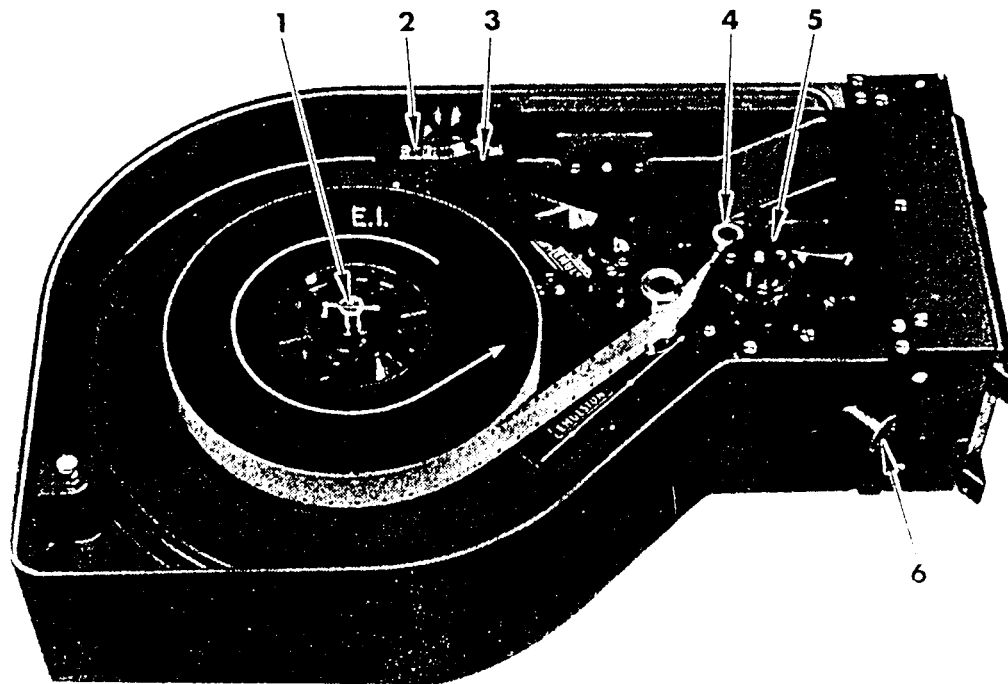

Fig. 13-12. Eclair NPR magazine (feed side). Courtesy of Eclair International Diffusion.
13.8 ECLAIR NPR 16 MAGAZINE (Figs. 13-12, 13-13)
1. (Fig. 13-12) Remove feed lid. Swing footage-counter arm toward top of magazine and lock it into the spring-arm holder. 2. In darkness, remove film roll from can and bag. Place film, emulsion in, on the supporting flange (which rides the feed spindle) and pull film off the roll counterclockwise.
NOTE: (a) Flanges in newer magazines are held in place by a spindle lock (Fig. 13-12) that fits horizontally across the top of the spindle. Older magazines merely hold the cores by pressure fit. Flanges are removed from the magazine when daylight spools are loaded into the magazine. (b) Older magazines are equipped with flange-ejector buttons in the feed and take-up sides. Newer magazines do *not* have ejectors.